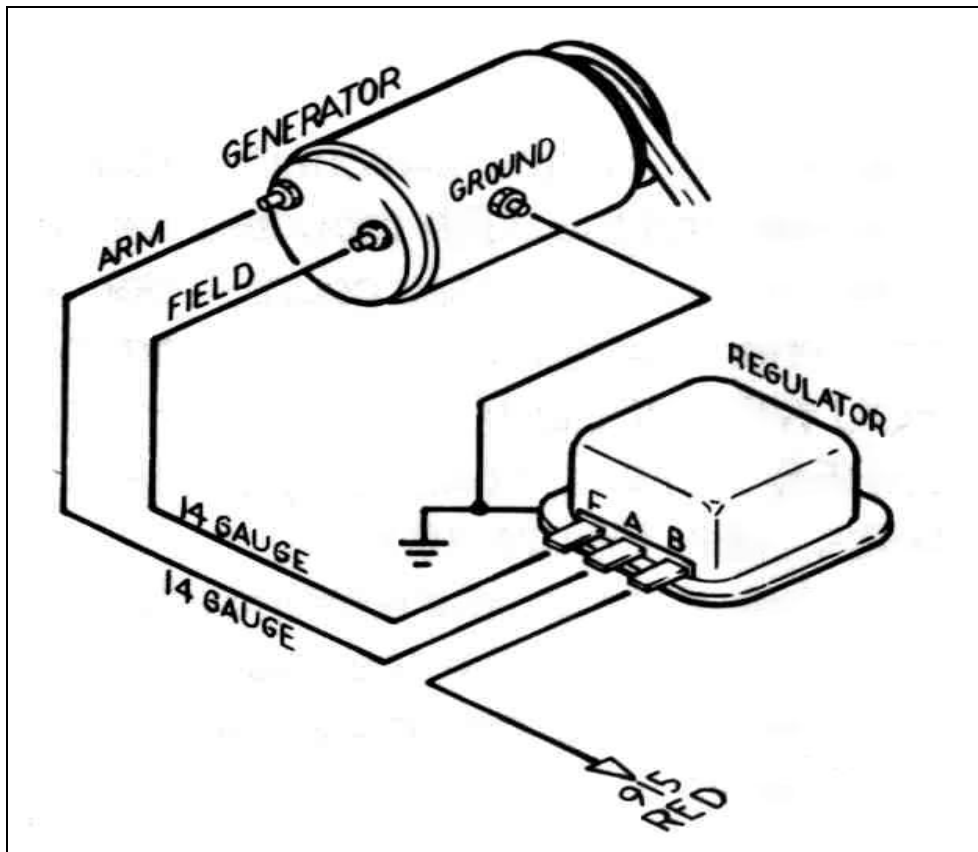

Figure 5-1 Generator Charging System
5.1 Generator Charging System. See Figure 5-1.